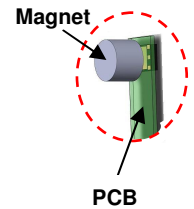

Figure 2. Biasing magnet.
- Magnets and sensors can be placed on opposite sides of a 1.5 mm thick (0.062 inch) circuit board, which provides a convenient spacing for many applications (see Figure 2).